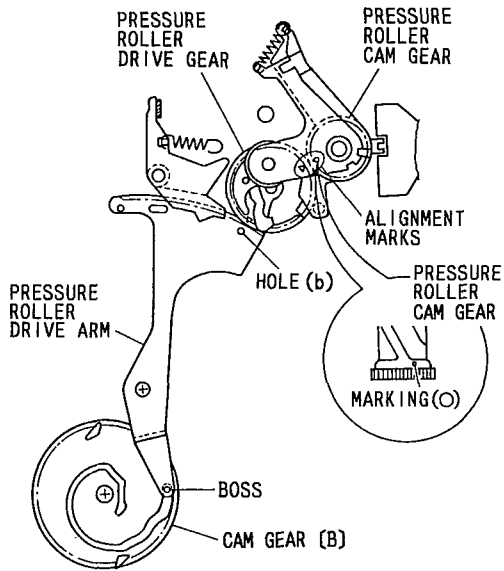

Fig. 4-16
- 4) Align mark (○) on the pressure roller cam gear and mark (△) on the pressure roller drive gear. (See Fig. 4-16)
- 1) Check that the boss of the pressure roller drive arm is securely inserted into the groove in cam gear [B]. (See Fig. 4-16)
- 2) Align hole (b) in the pressure roller drive arm and the hole in the chassis. (See Fig. 4-16)